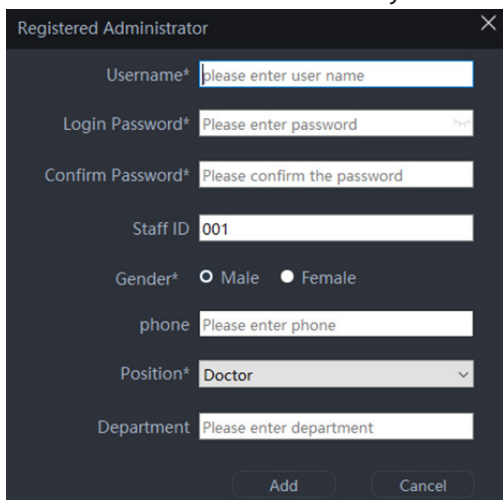

Figure 17
5. As shown in Figure 17, enter the user name, password, and confirm password and other information, and click "Add" to register successfully. Enter the user name and password on the login interface to log in to the main interface of the software.